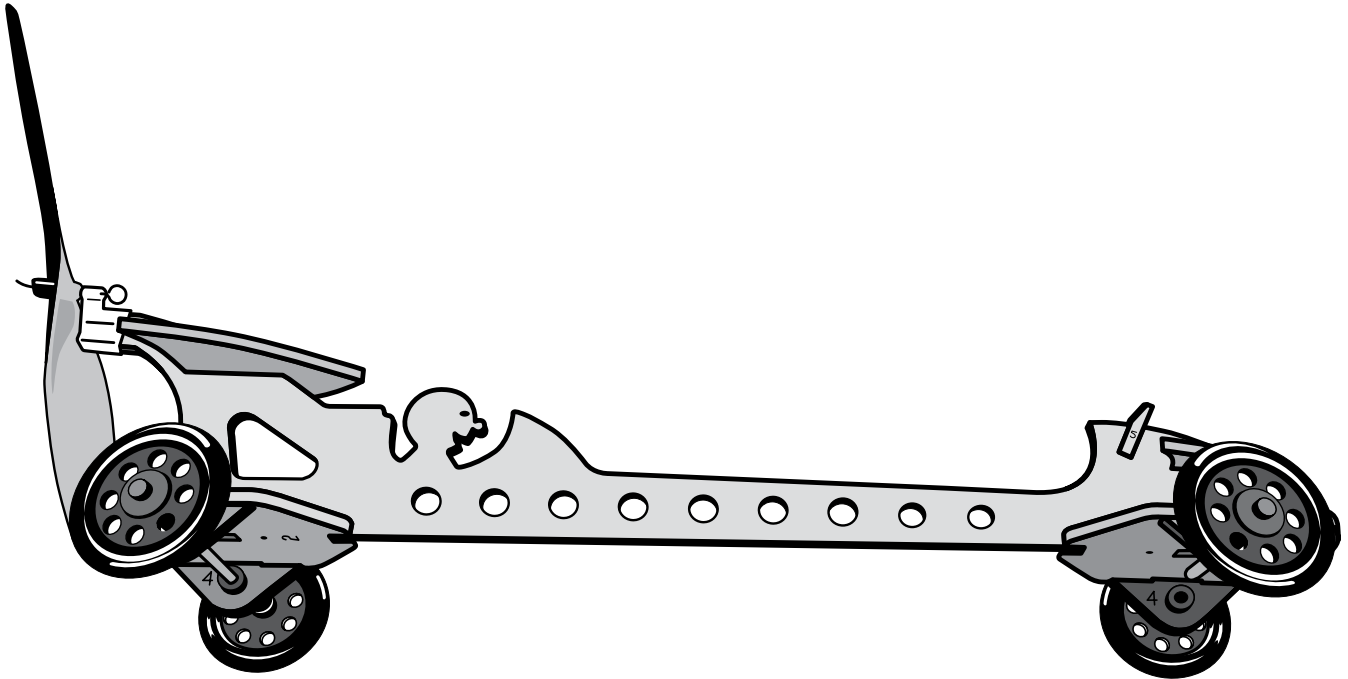

Figure 10
11. Push the propeller onto the back of the racer as shown (Figure 10).